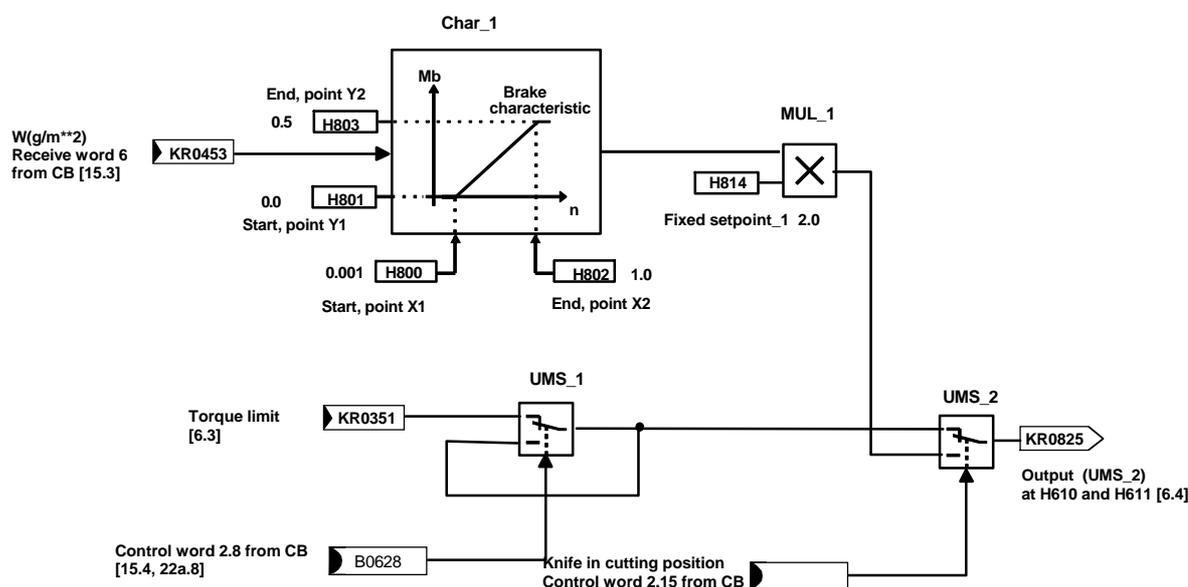

Fig. 4-18 Block diagram to implement the cut tension function
**Solution** The following solution is implemented using the freely-assignable blocks in SPW420; refer to Fig. 4-18 and block diagram 24.